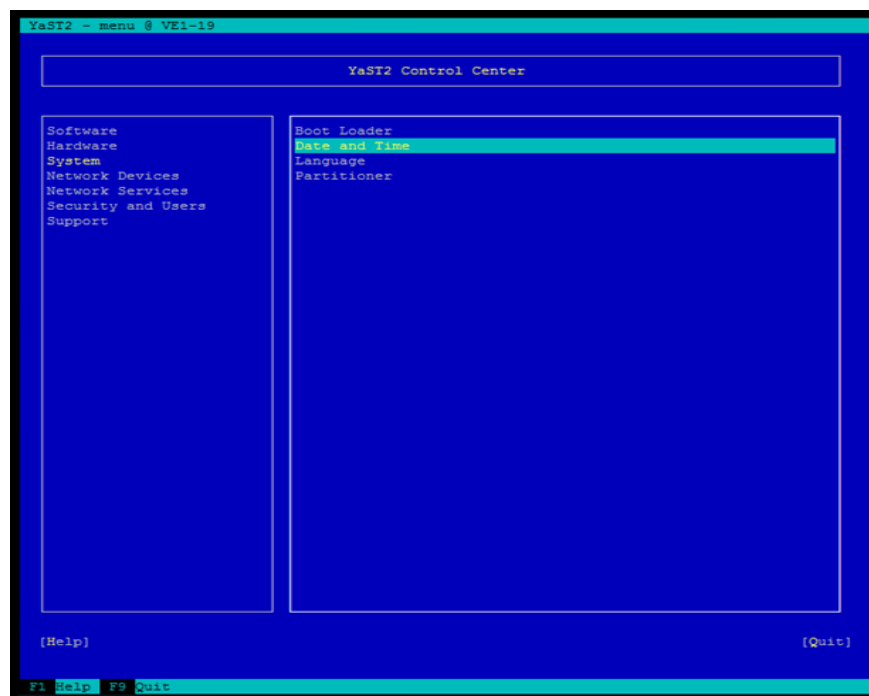

Figure 176 Setting date and time
7. If you need to set the date and time, then select **System** on the left-side pane, tab to the right-side pane, select **Date and Time** as shown in Figure 176 on page 132, and then press **Enter**. The Clock and Time Zone screen appears.